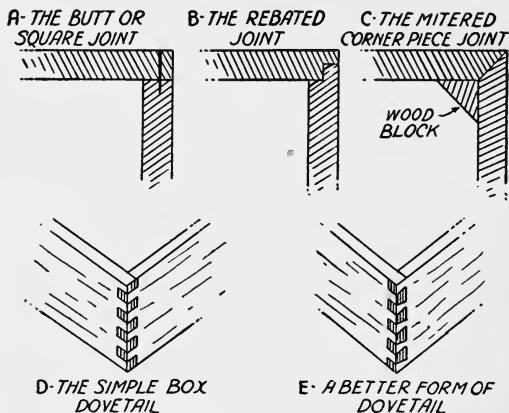

FIG. 4. HOW CORNER JOINTS ARE MADE
*Corner Joints.*— There are five corner joints which you should know about and these are (a) the *butt*, or *square joint*; (b) the *lap*, or *rebated joint*; (c) the *mitered corner pieced joint*; (d) the *common dove-tail box joint*, and (e) the *regular dove-tail joint*, pictures of all of which are shown in Fig. 4.